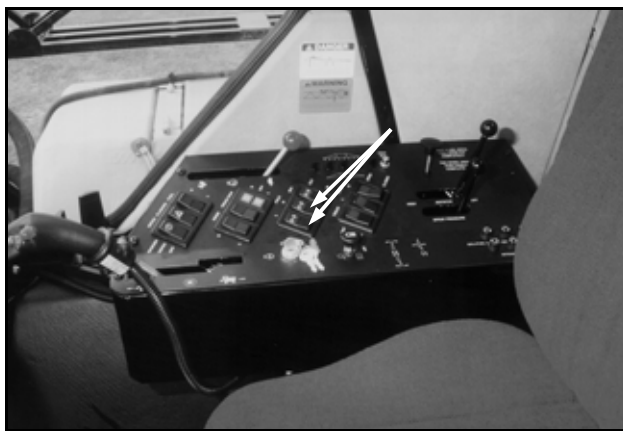

FIG 5.35
HORIZONTAL BOOM FOLD - To fold either boom horizontally in toward the machine or out away from the machine, depress the "IN" or "OUT" of either or both "BOOM FOLD" switches (fig. 5.35, items 1 & 2). While depressed, these switches activate cylinders connecting either boom breakaway mount to the transom (fig. 5.34).